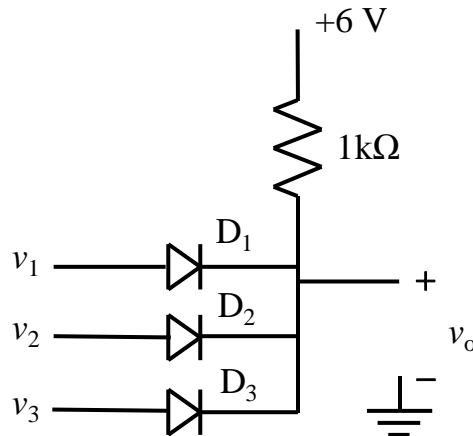

Fig. 5. Large-signal diode circuit
6. Construct the circuit in Fig. 5 and measure its performance as follows. The power supply COM terminal is the measurement ground reference.